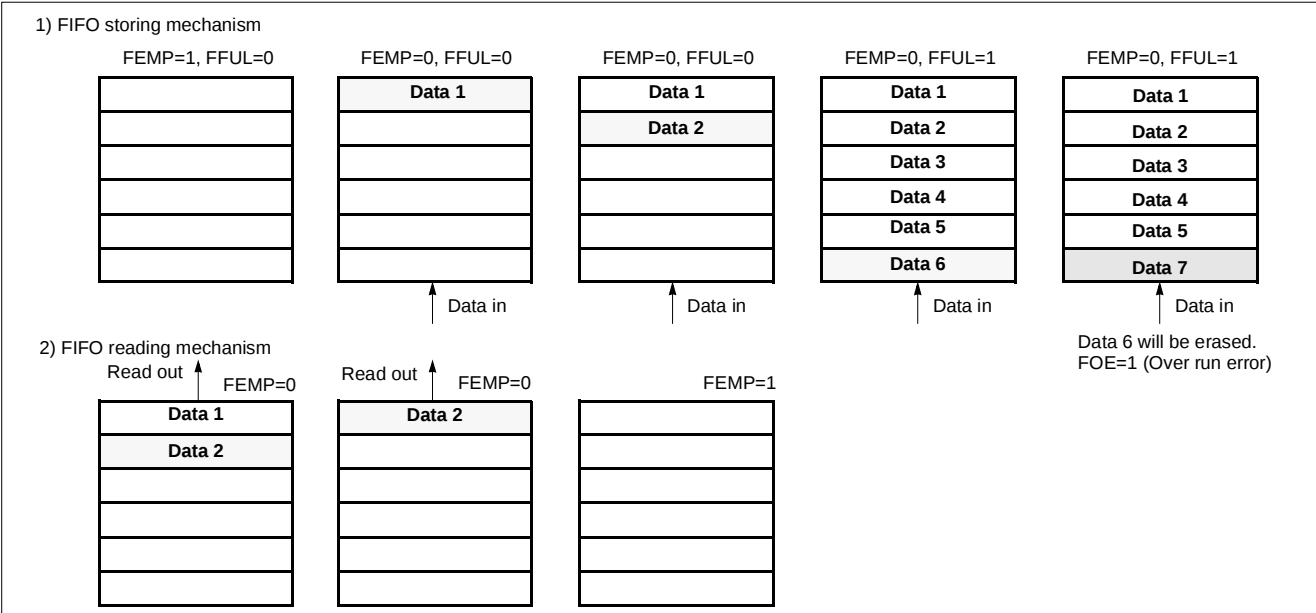

Figure 15-4 Example for FIFO operating mechanism
7. See Figure 15-4 FIFO operating mechanism.